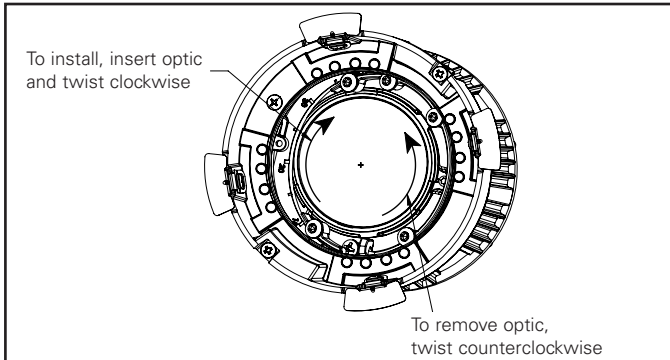

Figure 7A.
1. The optic can be removed and replaced to provide a different beam angle. To remove optic, twist counterclockwise. To install, insert optic and twist clockwise (Figure 7A & 7B).